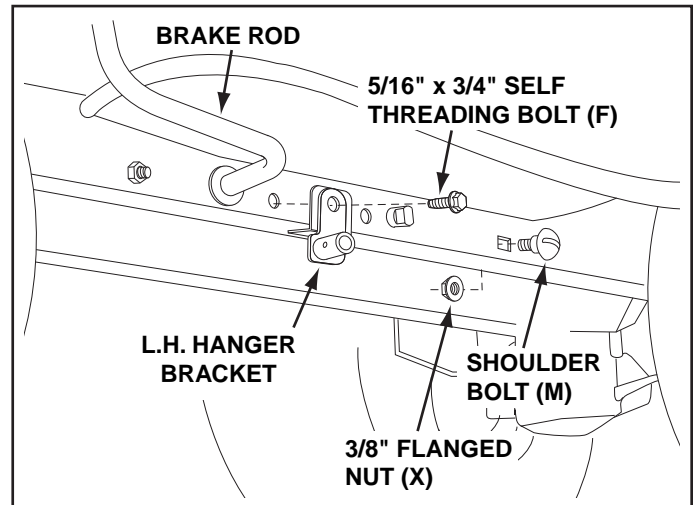

FIGURE 5 LEFT SIDE VIEW
STEP 5: (SEE FIGURE 5)
- Attach the L.H. Hanger Bracket (tube facing out) to the hole using a 5/16" x 3/4" self threading bolt (F).
- Install a round head shoulder bolt (M) into the hole that is 9-1/2" to the rear of the bolt you just installed. Secure it with a 3/8" flange nut (X) on the inside of the frame.